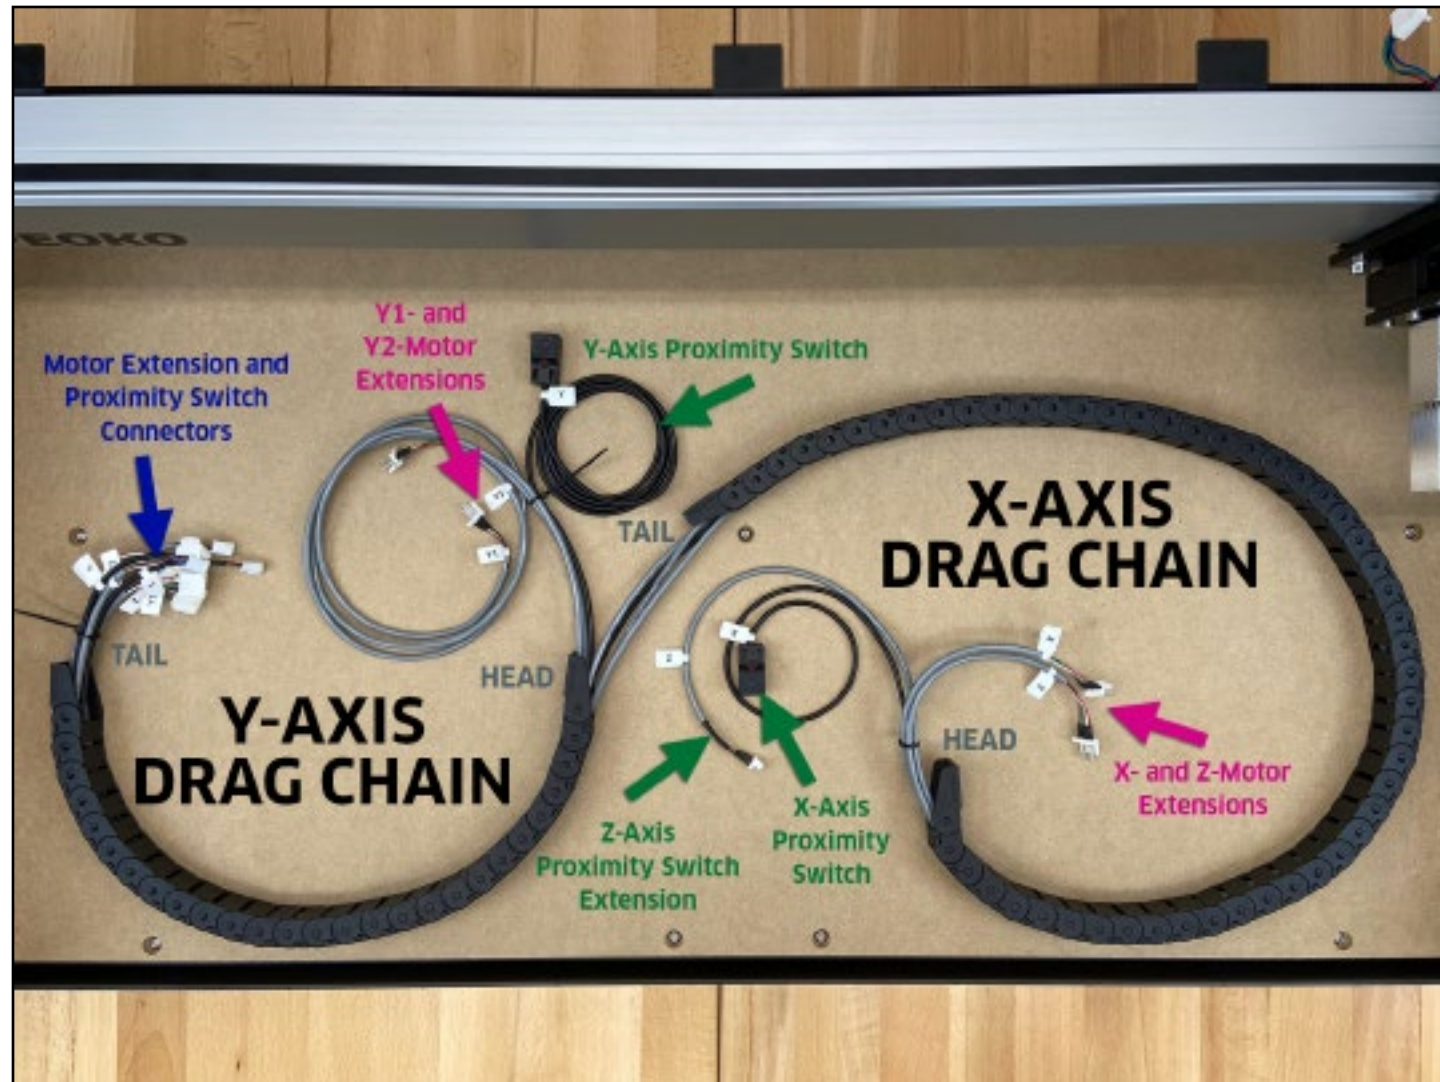

Figure 6-9
The complete wiring harness consists of the Y-Axis drag chain, X-Axis drag chain, four stepper motor extension cables, two proximity switches with cables, and one proximity switch extension cable. It's often referred to simply as "the drag chain." Take a minute to familiarize yourself with all of its components described below and shown in **Figure 6-9**.
1. Unroll and lay out the wiring harness on the baseframe as shown in **Figure 6-9**.